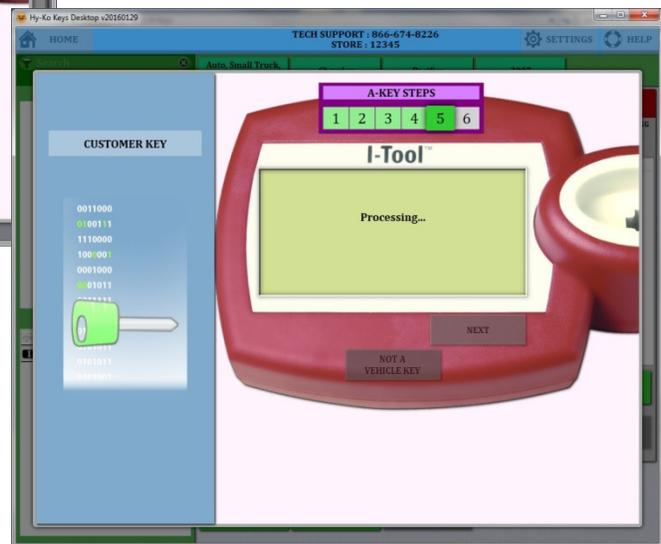

fig. 93
- The I-Tool will begin processing the data from the customer's key and the vehicle (see fig. 93).